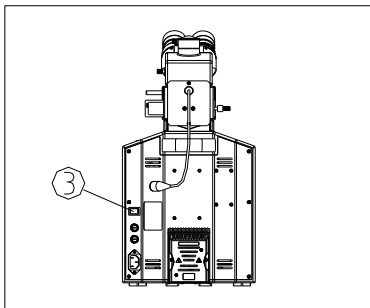

Fig.2
(4) When working, the surface of light source will be very hot. Make sure there is enough room for the heat dissipating around the light source.
(5) Connect the microscope to the ground to avoid lightning strike.
(6) For safety, make sure the power switch③ is at "O" (off) and power it off before replacing the fuse (See Fig. 2).
(7) Wide voltage range is supported as 100~240V. Additional transformer is not necessary. Make sure the voltage is in this range.
(8) Use the special wire supplied by our company.
(9) All the power OFF devices have been set in the position where is easy to operate.